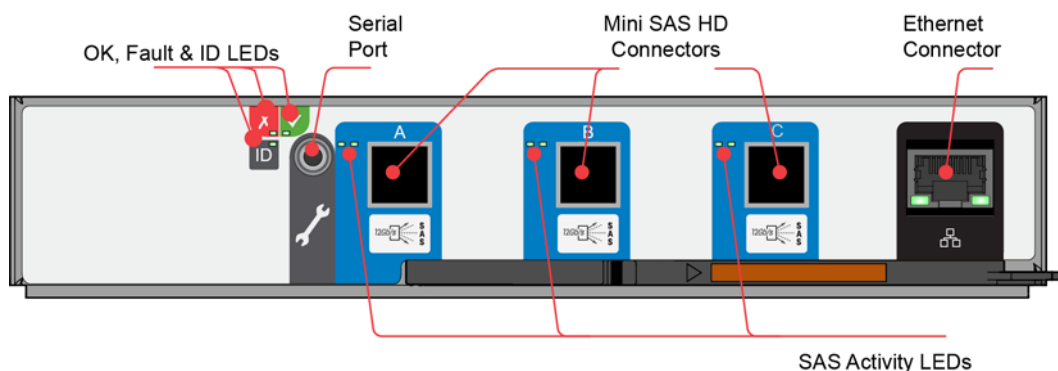

Figure 6–13 SBB I/O Module LEDs (12Gb/s SAS EBOD module shown)
- As shown in Figure 6–14 and Figure 6–15, pinch the latch on the module and pull the handle towards you (1). This will lever the module out of its connector on the midplane.
- Pull the module out of the enclosure (2).